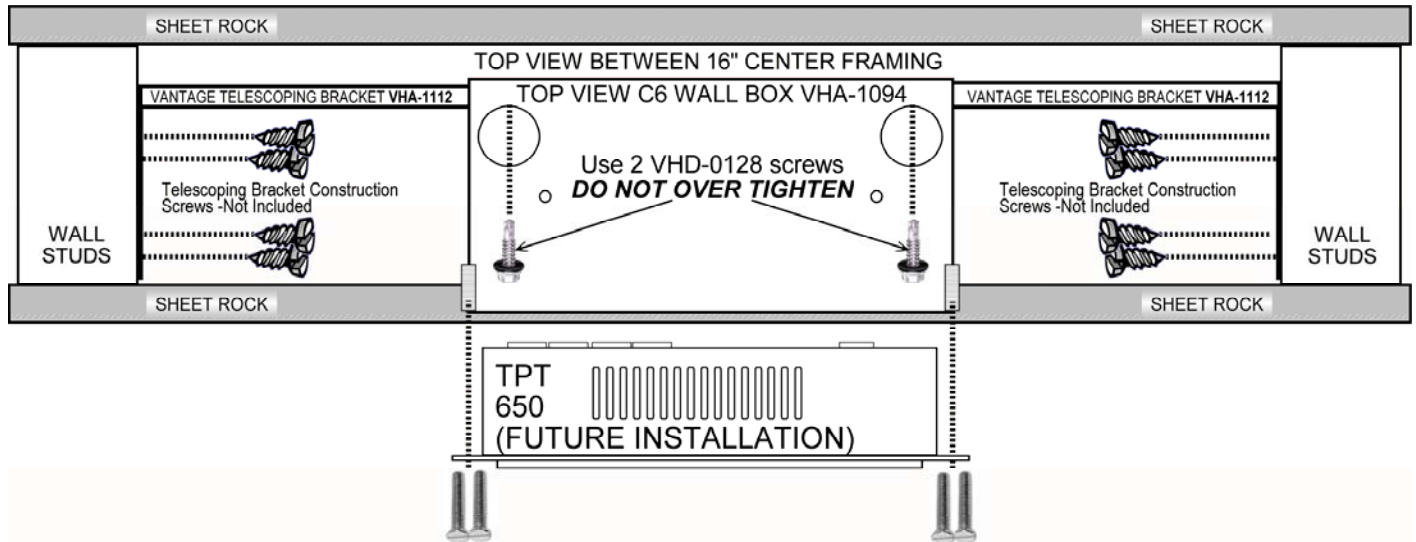
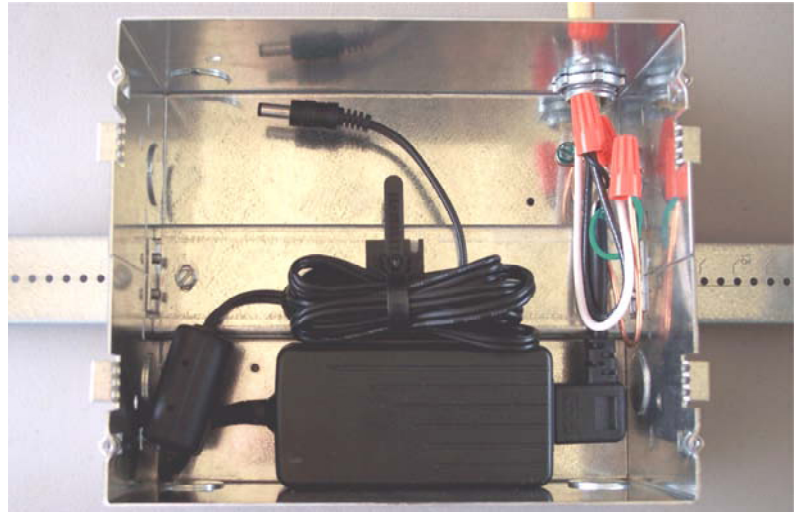

FIG: 4
FIG: 5
- A licensed Electrician should complete inside wiring assembly as shown in **FIG: 4**, and replace the **C6 WALL BOX WIRING TEMPLATE** for protection – see **FIG: 4** and **FIG: 5**
- A licensed Electrician should complete inside AC wire assembly as shown in **FIG: 4** and **FIG: 5**,